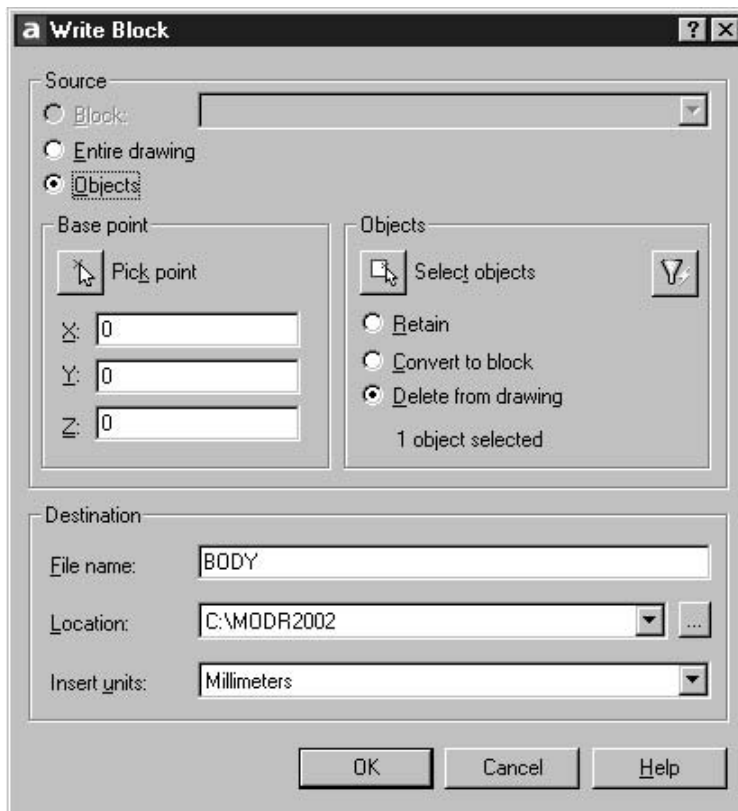

Figure 23.6 The Write Block dialogue box for BODY.
- 3. Insert units: Millimeters – Fig. 23.6